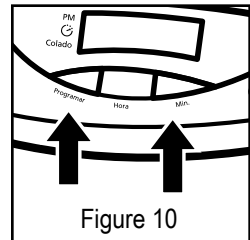

Figure 10
3. While still pressing and holding the “Programar” button, press and hold the “Min.” button until the clock displays the correct minute. See Figure 10.